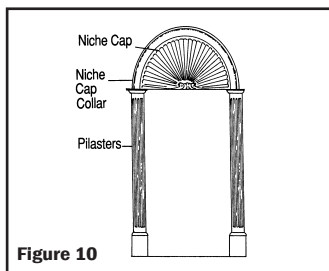

Figure 10
- Measure the distance between bottom of niche cap and shelf; trim bottom of pilasters if needed. Center the pilaster under the niche cap edge/niche cap collar; check plumb/level and screw or nail into place (*figure 10*).